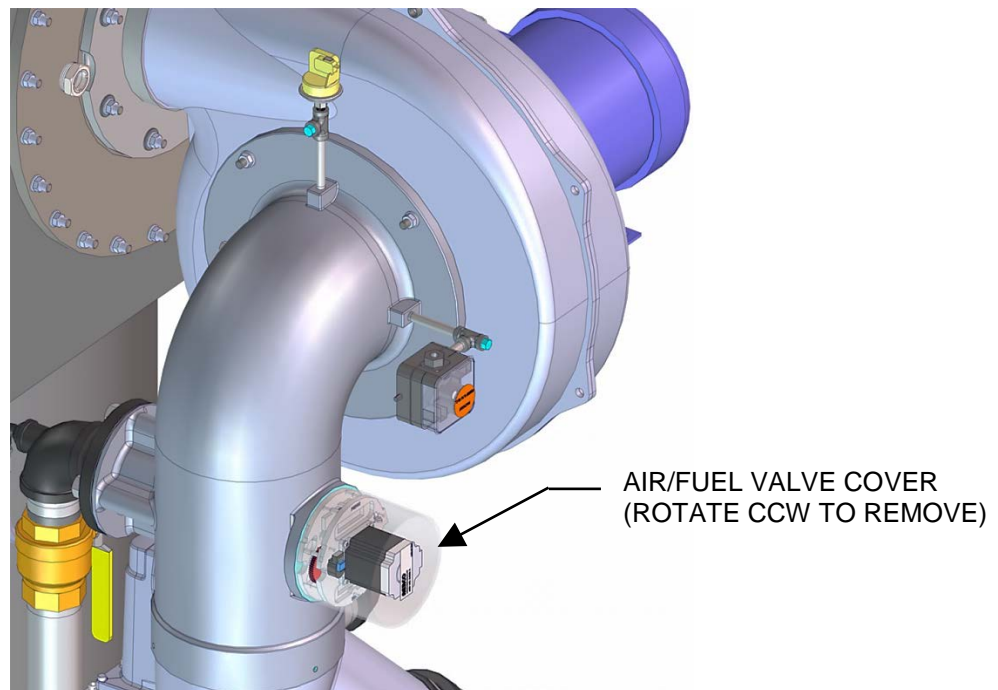

Figure 6-7: Air/Fuel Valve Cover Location
3. Remove the Air/Fuel Valve cover by rotating the cover counterclockwise to unlock it (see Figure 6-7, below).
3. Remove the Air/Fuel Valve cover, as shown in Figure 6-7, above, by rotating the cover counterclockwise to unlock and lift up to remove.